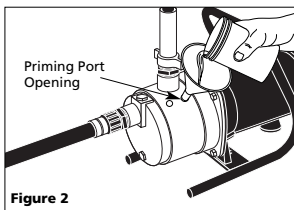

Figure 2
1. Remove priming port on pump and fill with water. Reinstall priming port on pump (see Figure 2). For boosting water pressure: Do not remove priming port. Turn on water supply.